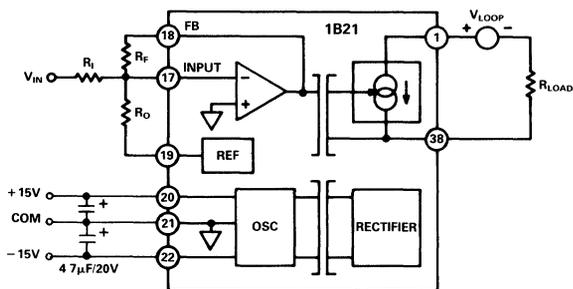

Figure 1. Basic Interconnections
Input Configurations: The 1B21 has been designed with a flexible input stage for a variety of input and output ranges. The basic interconnection for setting gain and offset is shown in Figure 1. The output of the internal amplifier is constrained to 0 to $-5V$, which maps into 0 to 20mA across the isolation barrier. Thus to create a 4mA offset at the output, the input amplifier has to be offset by 1V.
TC Considerations of External Resistors: The specifications for gain and offset temperature coefficient (TC) for the 1B21 exclude the effects of external components. The total gain TC for the circuit in Figure 1 is:
Functionally, the V/I converter consists of four basic sections: input conditioning, modulator/demodulator, isolated loop supply and current source (Figure 1). The input is pin programmable for 0-5V or 0-10V inputs and 0-20mA or 4-20mA outputs using an internal resistor network. It can also be set by an external resistor to accept 0-1V to 0-10V voltage inputs. Transformer coupling provides 1500V rms galvanic isolation between the inputs and the current loop. Nonlinearity is an excellent $\pm 0.05\%$ max.